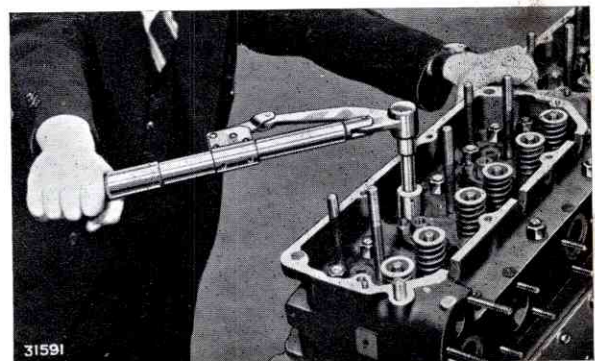

FIG. 19. TIGHTENING CYLINDER HEAD NUTS USING A TORSION SPANNER
10. To ensure freedom from distortion and gasket leaks, the cylinder head nuts must be tightened down evenly in a definite order, starting at the centre and working outwards, as shown in Fig. 26. First tighten down with a short spanner, then with a torsion spanner set at 150 to 160 lb./ft., see Fig. 19.